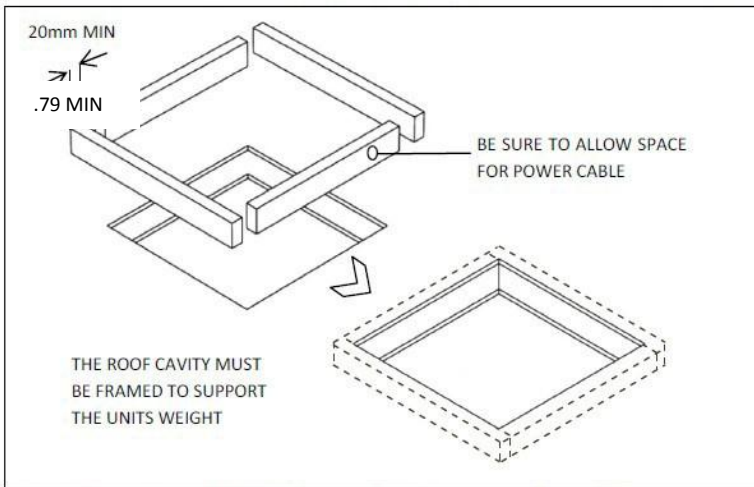

Fig 4: The roof cavity **MUST** be boxed with timber to provide a solid structure
- Close the strain relief cover and housing by hand. Place the connector assembly into Molex tool as shown in **Figure 4**. Squeeze the tool until the connector bottoms out and the locking latches engage on both sides. OR alternately, squeeze the top and bottom closed with tongue and groove pliers as shown in **Figure 4.1**. Pliers must be a minimum of 10" long. Squeeze firmly on both sides, squarely across the connector between ribs A and B to ensure wires seat completely into slots.